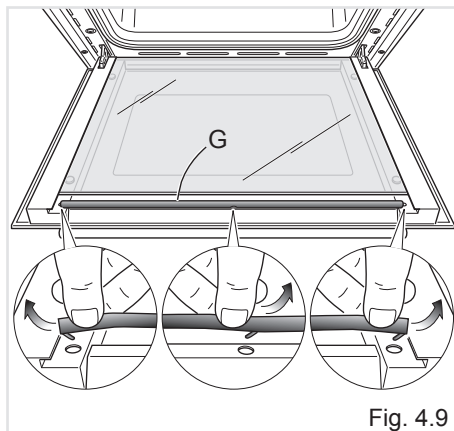

Fig. 4.9
- Remove the seal "G" by unhooking the no. 3 fixing hooks (fig. 4.9).